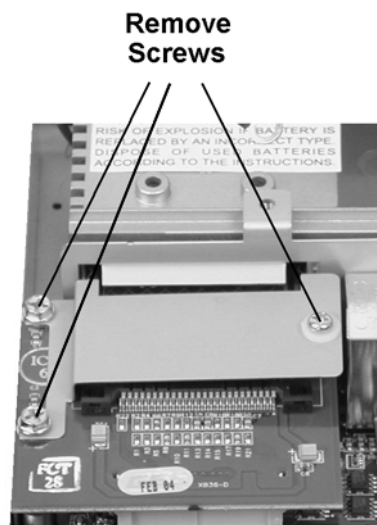

Figure 3-14: Removing the Compact Flash Daughter Card
3. Locate the CF Daughter card and remove the screws shown in Figure 3-14.